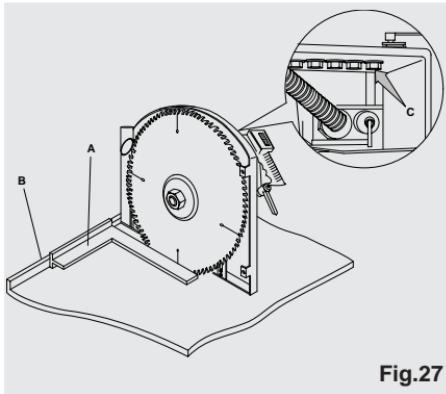

Fig.27
If the cut is wider than the thickness of the blade and/or the back side of the cut is deep and/or burnt, the problem might be due to the teeth skidding at back of the blade. To correct this fault, place a square (A) on the stop rule (B), as shown in Figure 27.